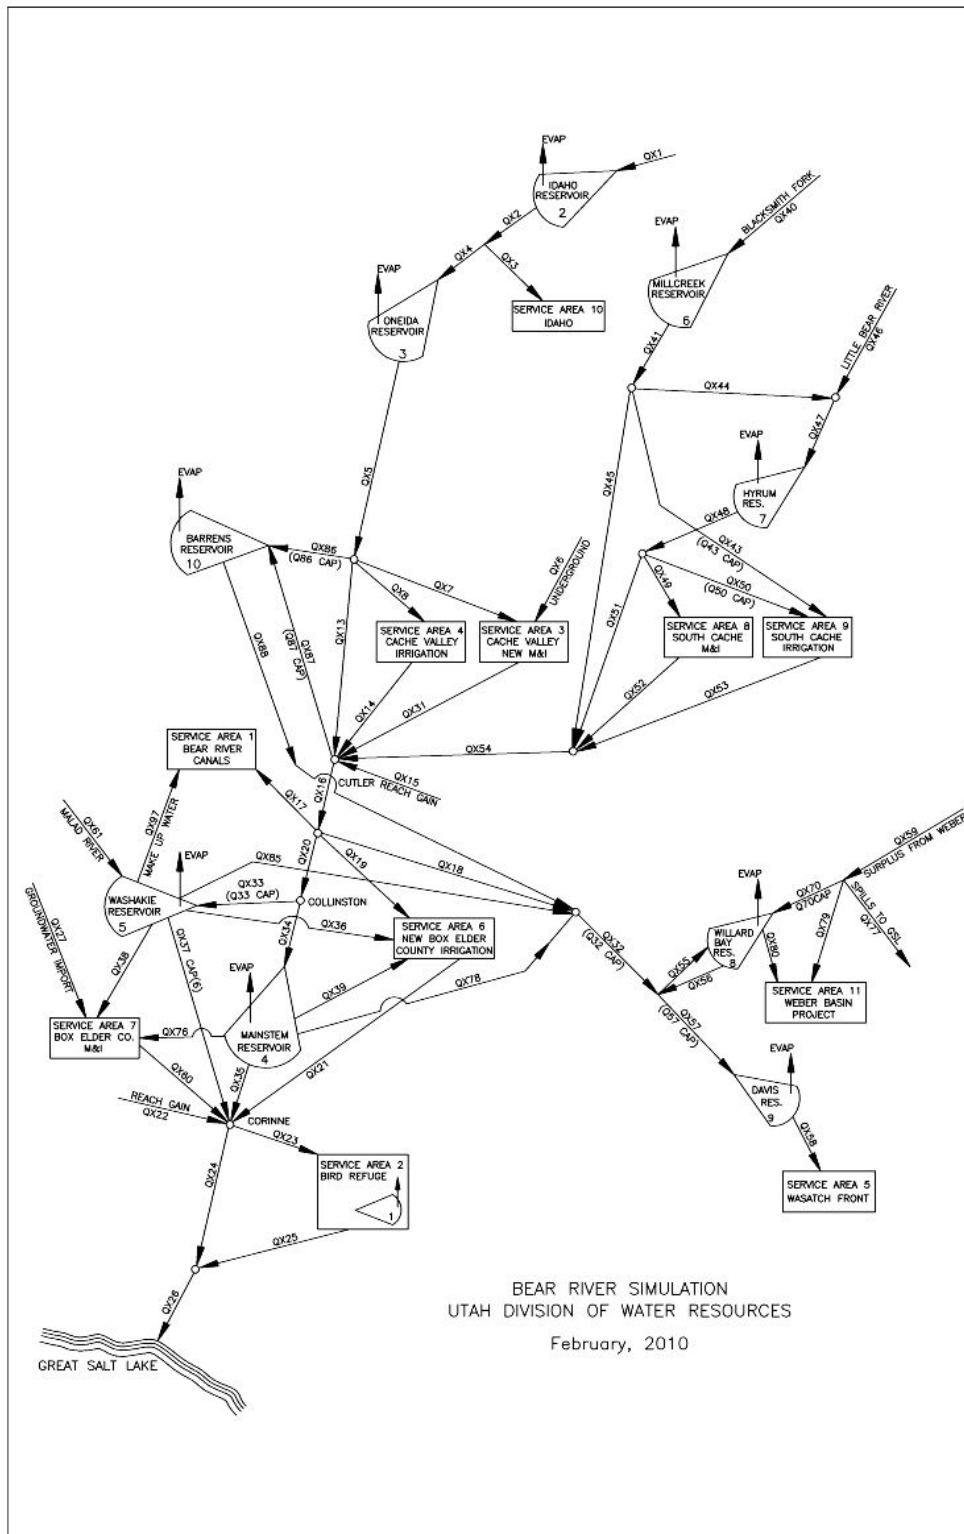

Figure 2. UDWR Bear River simulation model schematic
The UDWR GenRes model (Figure 2) considers inflows along the Bear River, 3 tributaries (Blacksmith Fork, Little Bear, Malad), and 2 reach gains and losses (at the Bear-Little Bear
The UDWR model also includes 4 existing reservoirs (Idaho, Oneida, Hyrum, and Willard Bay) and 5 proposed reservoirs (Barrens, Washaskie, Mainstem, Davis, and Millcreek). A 6th reservoir now under consideration is termed “Above Cutler” and would be located on the Bear River above Cutler reservoir along the reach labeled QX13 in Figure 2. The Above Cutler reservoir could also supply water to Cache Valley users.
6. Note that this project includes most of the schematic elements for the Lower Bear River Basin but a few are missing! Compare the WEAP schematic to Figure 2.
- a. To add a Demand Site (Service Area in Figure 2), go to the top box and check *Demand Site*.
11. *Headflows*. **Headflows** are the most upstream flow inputs to river elements in the WEAP model and are indicated by the corresponding most-upstream arrows in Figure 2 on each river. Each arrow is also labeled with a name. To assign headflow data:
12. *Reach inflows*. **Reach inflows** are local or tributary inflows (sometimes called reach gains) that flow into a river at downstream locations. These reach inflows are also indicated by arrows in Figure 2 and labeled by source (QX15-Reach Gain; QX22-Reach Gain). These inflows have already been entered in the WEAP model. To which reaches are the gains assigned?
13. *Demand Sites*. Demand sites are locations where water is desired to be used and are represented by boxes in Figure 2. In the schematic, right click one of the Demand Sites you added in Step 7a. Select **Edit Data=>Method**. A data window will open.
14. *Transmission Links*. In the schematic, right click on a *Transmission Link* you added in Step 7c and select **Edit Data=>Maximum Flow Volume**. Leave nearly all settings at their default values (i.e., unlimited capacity, no losses, and no costs). On the *Supply Preference* tab, verify for the New Cache M&I demand site that transmissions from the groundwater have the highest priority (1), and transmission from other sources (e.g., the Bear River) have lower priority (2). For other demand sites, verify all sources have equal priority.